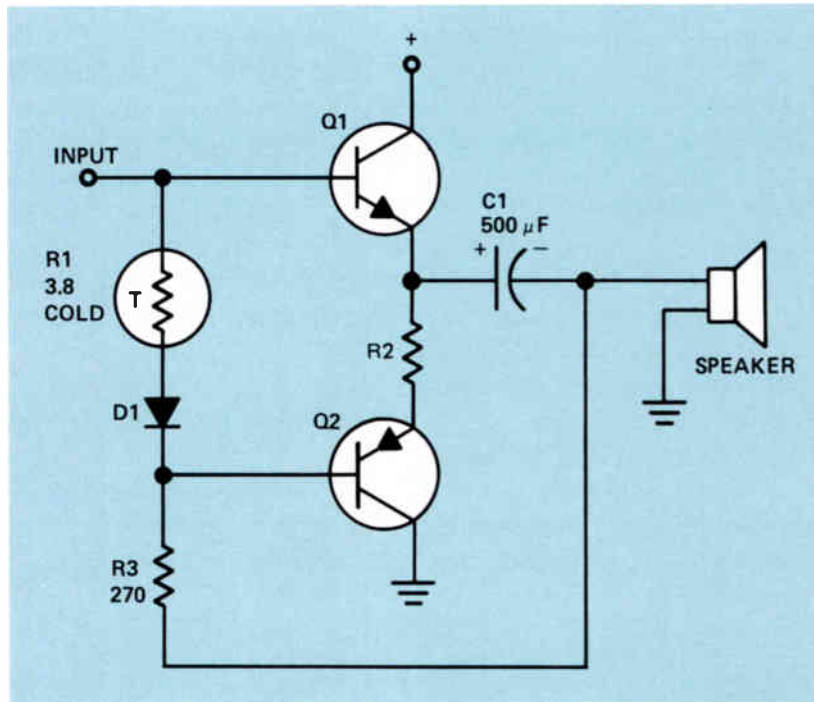

Figure 14. A complementary symmetry push-pull amplifier.
Transformers can be built that have a reasonably good frequency response, but these transformers are expensive. Figure 14 shows a circuit that eliminates both the input and output transformers in a push-pull stage. This circuit uses a pnp and an npn transistor, and is called a *complementary symmetry push-pull amplifier*. To make this circuit work, you need an npn transistor and a pnp transistor that have essentially identical characteristics. Let's see how this circuit works.
plifiers, and the output from the last one is fed to a power amplifier made up of an npn and a pnp transistor connected as shown in Fig.14. All of this circuitry is inside the IC. If anything goes wrong with one of the components or transistors inside the IC, there is nothing you can do except replace the entire unit.
- 15 In Fig.14, if the input signal causes the current through Q1 to increase and the current through Q2 to decrease, where does the extra current required by Q1 come from?